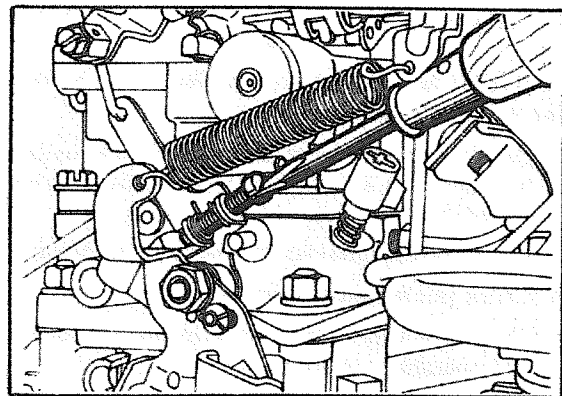

Fig. 8 Throttle Adjusting Screw Adjustment
3. Finally, readjust the speed to 600 to 650 rpm by means of the throttle adjusting screw. (Fig. 8)